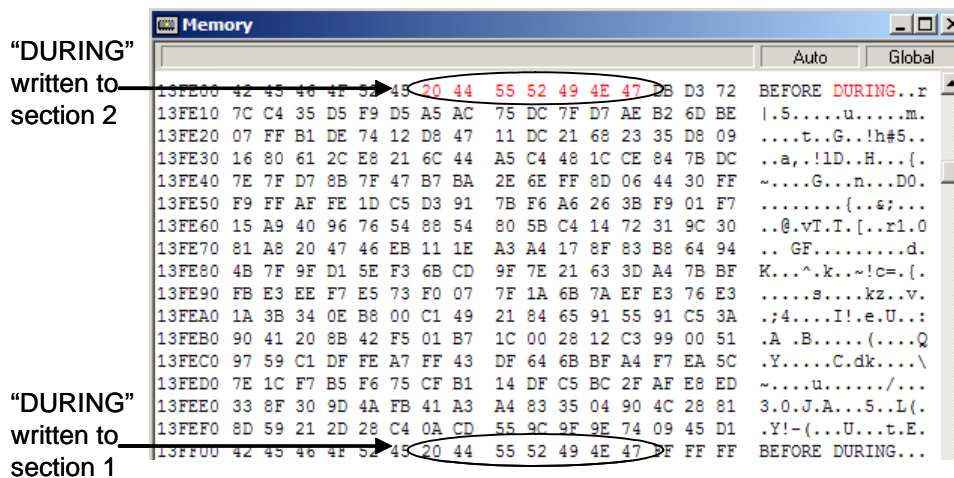

Figure 10. Results of Executing Step 7
- The following instructions demonstrate that users can continue to read and write freely to the EEE RAM while EEE is enabled. However, the FTM may actively copy data written to the EEE RAM to store and maintain records in EEE Flash. “DURING” is the next string of text written, which is placed behind the previous string. The text strings should be observed in the debugger memory window, as shown in Figure 10.